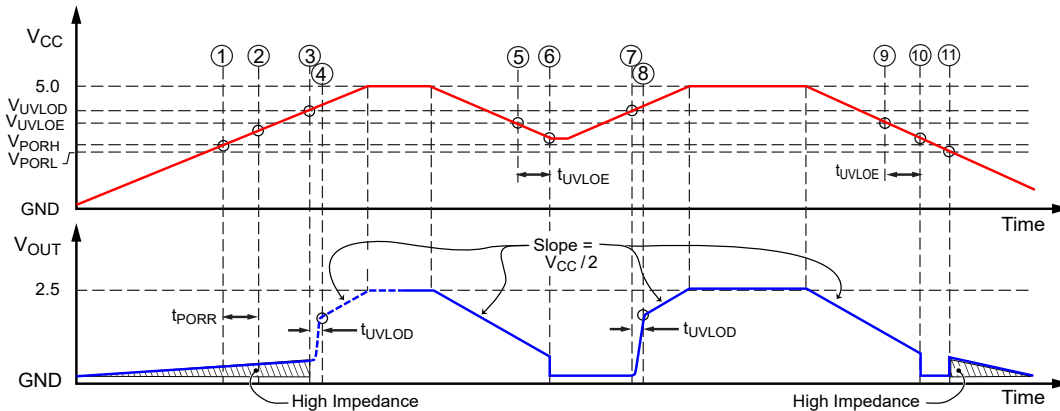
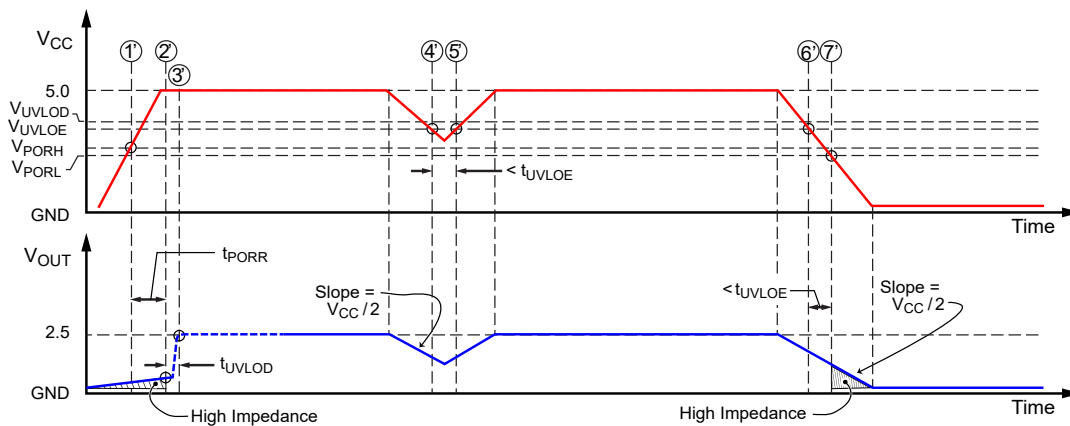

Figure 11: POR and UVLO Operation – Slow Rise Time Case – 5 V Mode
Figure 12: POR and UVLO Operation – Fast Rise Time Case – 5 V Mode
- Power-Up.** At power-up, as V_{CC} ramps up, the output is in a high-impedance state. When V_{CC} crosses V_{PORH} (location [1] in Figure 11 and [1'] in Figure 12), the POR Release counter starts counting for t_{PORR} . At this point, if V_{CC} exceeds V_{UVLOD} [2'], the output will go to $V_{CC}/2$ after t_{UVLOD} [3']. If V_{CC} does not exceed V_{UVLOD} [2], the output will stay in the high-impedance state until V_{CC} reaches V_{UVLOD} [3] and then will go to $V_{CC}/2$ after t_{UVLOD} [4].